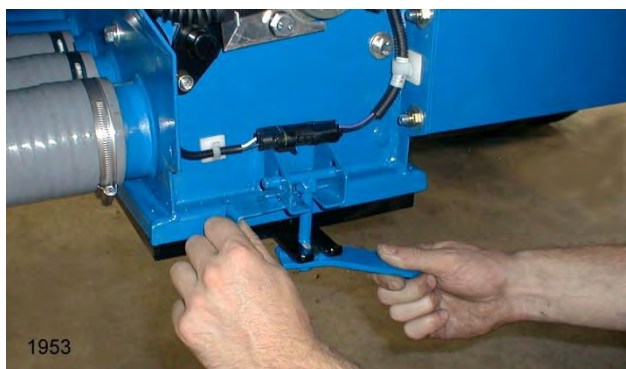

Fig. C2 Removing the meterbox hatch.
Step 1. Remove the meterbox hatch from the bin being tested (Fig. C2).